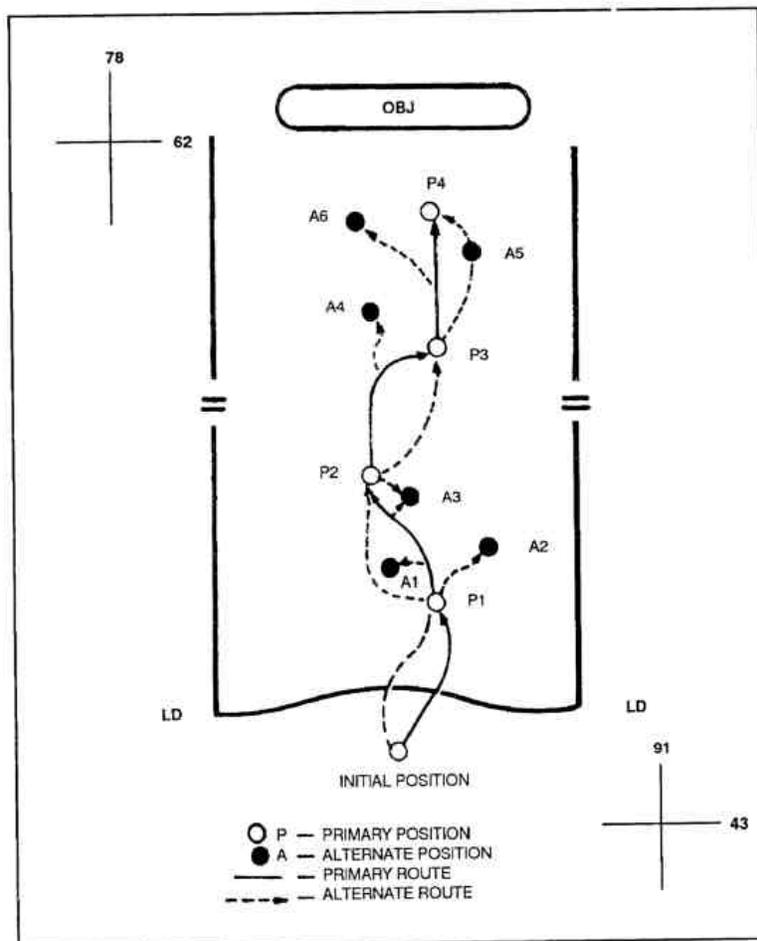

Figure 6-7. Example mortar displacement overlay.
*After he considers the scheme of maneuver and the commander's guidance, the mortar platoon leader develops a displacement plan based on his part of the fire plan. The displacement plan normally includes a map overlay that shows initial positions and subsequent positions. If time permits, the platoon leader selects and includes alternate and supplemental positions. The displacement plan also includes routes to be taken between positions and any pertinent control measures to support a specific operation or for a specific time (Figure 6-7).*